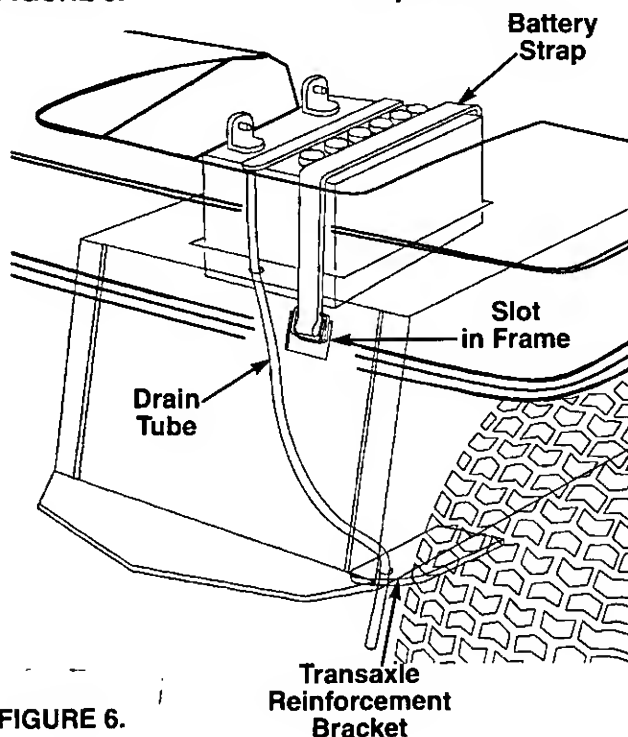

FIGURE 6.
6. Secure battery by hooking battery strap into slot in rear frame, under the fender. See figure 6.
7. Insert the drain tube through the hole in the trans-axle reinforcement bracket located on the **right** side of the unit. See figure 6. Be certain drain tube is routed away from the wheel rim.